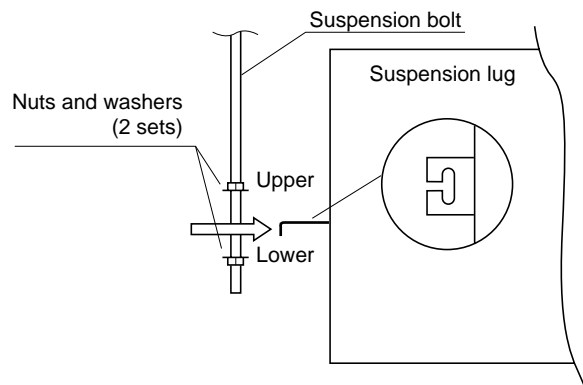

Fig. 3-85
- (3) Thread the 2 hexagonal nuts and washers (field supply) onto the 4 suspension bolts as shown in Figs. 3-85 and 3-86. Use 2 sets of nuts and washers (upper and lower), so that the unit will not fall off the suspension lugs.